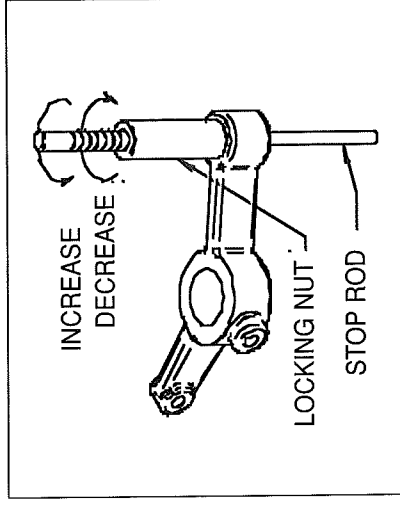
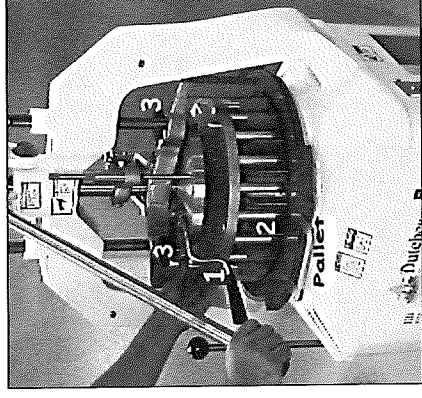

Figure 9
Figure 10
6. Loosen the two hand knobs (Fig. 10, No. 3) fully.
7. Set pocket height on the stop rod, Fig. 9, a minimum 1" off the trip plate. Release the trip lever (Fig 10, No. 1).
8. Pull handle down until head (Fig. 10, No. 2) rests on pallet.
9. Rotate head assembly (Fig. 10, No 2) 1/4 turn counterclockwise.